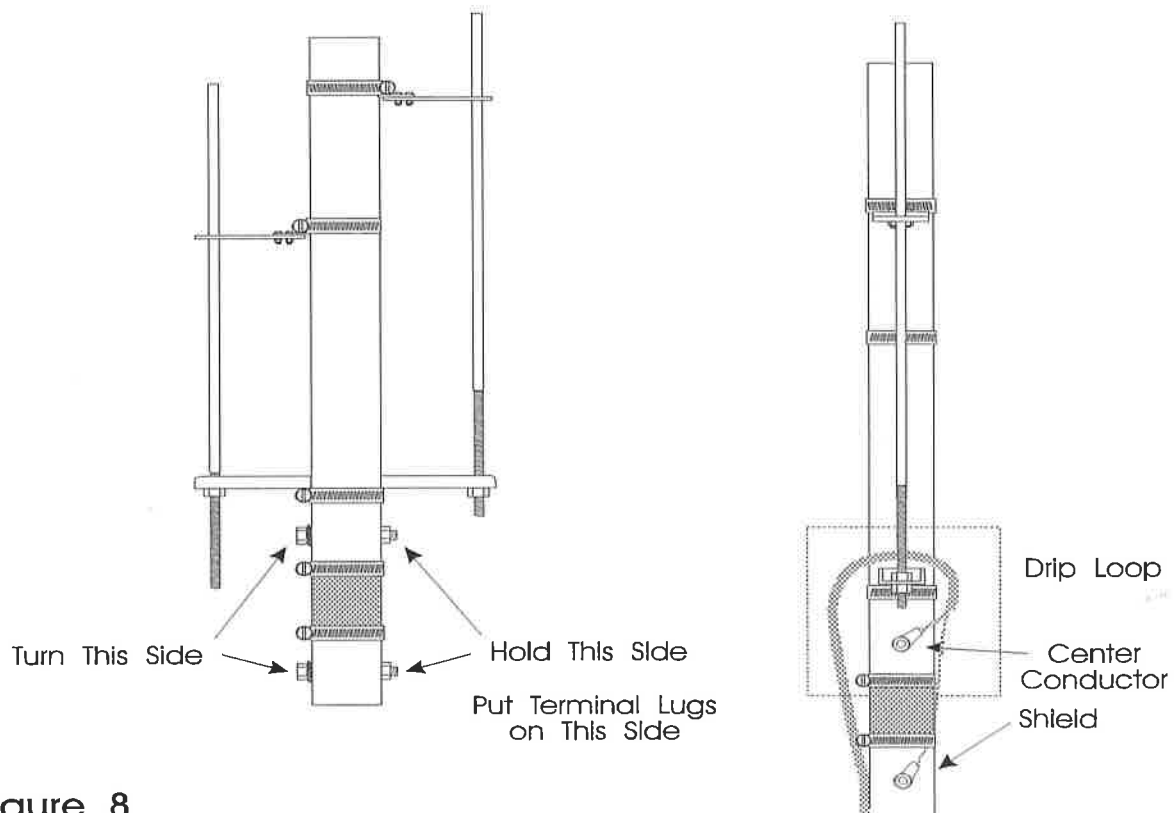

Figure 8
- [] 23. Remove the nuts on the center insulator bolts of the main element and install the *center conductor* lug of the coax *under the upper* element nut and the *shield* lug *under the bottom* element nut. Hold the nut in place and turn the bolt head to tighten these bolts so that the lug does not break off the end of the coax. Be sure to dress the coax so it loops up in a drip loop so water cannot get into the end. See Figure 8.